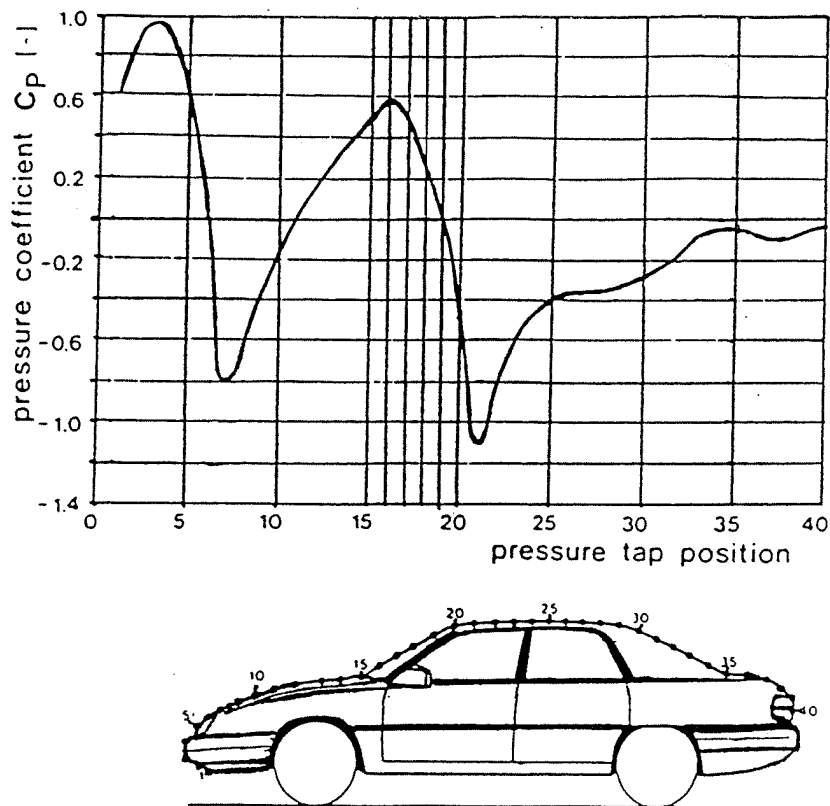

Figure Q1
(b) The car in Figure Q1 has pressure sensors along the centre line of the car, which give the profile shown in the upper diagram of pressure coefficient, C_p , against the position of each sensor.
- (c) For the car in Figure Q1, calculate the total force acting upon the windscreen of the car (pressure sensors 15 to 20), if the width of the window is 1.6m, length 15 to 20 is 0.8m, and air speed is 20m/s. Air density = 1.2kg/m^3 . (12 marks)